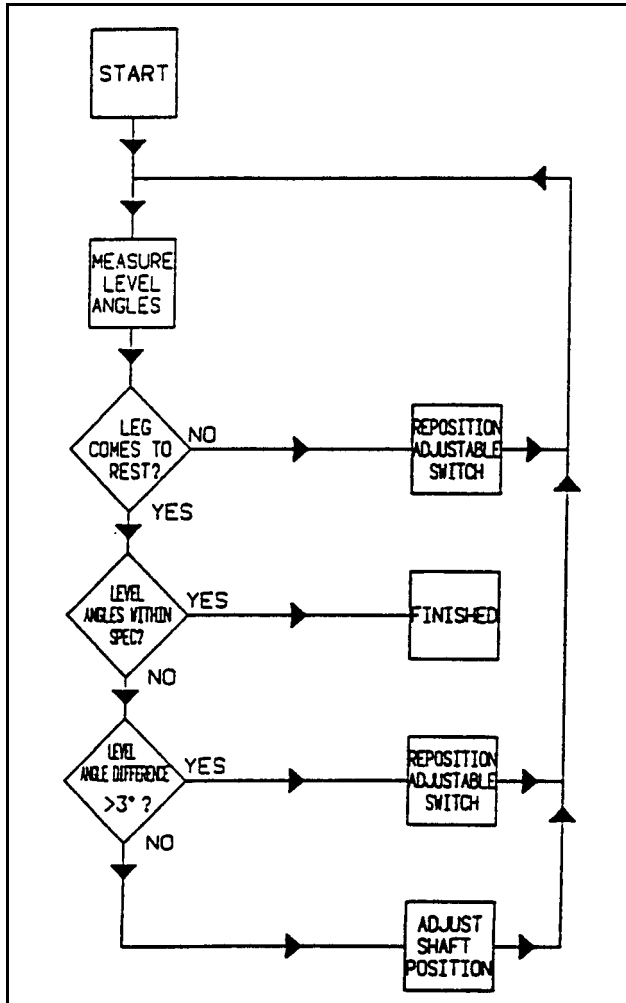
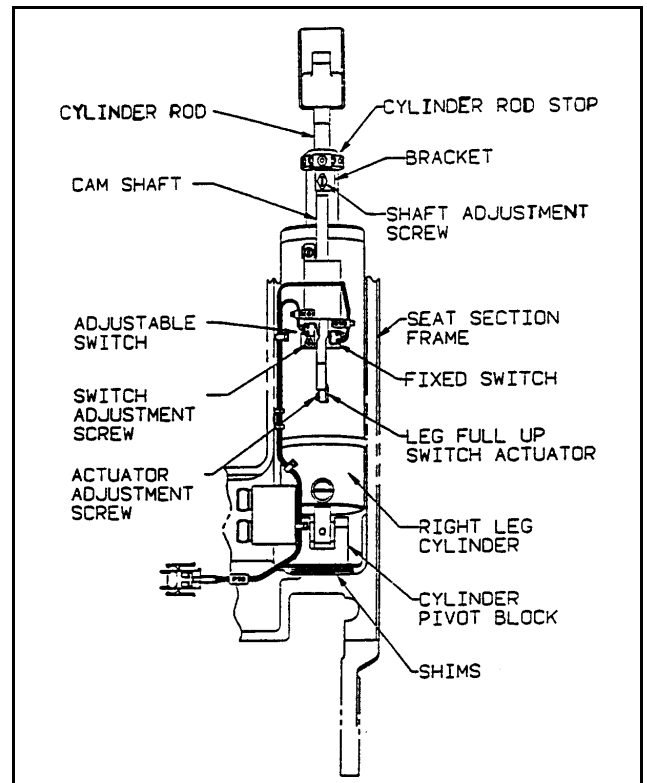

Figure 7-2. Leg Level Position Adjustment Procedure for Return-To-Level
Figure 7-3. Leg Return-To-Level and Leg Full-Up Switch and Actuator Hardware
- See Figure 7-2 and Figure 7-3 for information and a picture of the environment and hardware dealt with in this procedure.
NOTE: Refer to Figure 7-2 for a flow chart for this adjustment procedure.